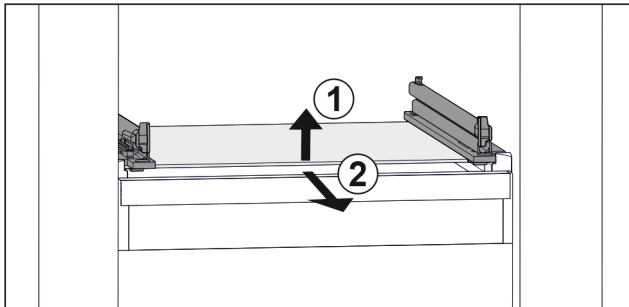

Fig. 45 Example illustration of glass shelf
- ▶ Lift glass shelf at the front. Fig. 45 (1)
- ▶ Take out glass shelf to the front. Fig. 45 (2)